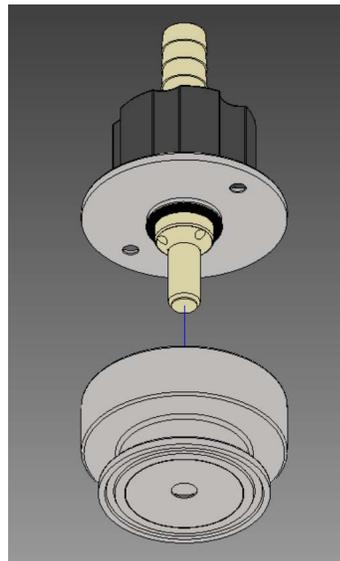

FIGURE F. 18. – TOP HALF INSTALLATION
11. Join together the upper half of the valve and the valve body (see Figure F.18.).